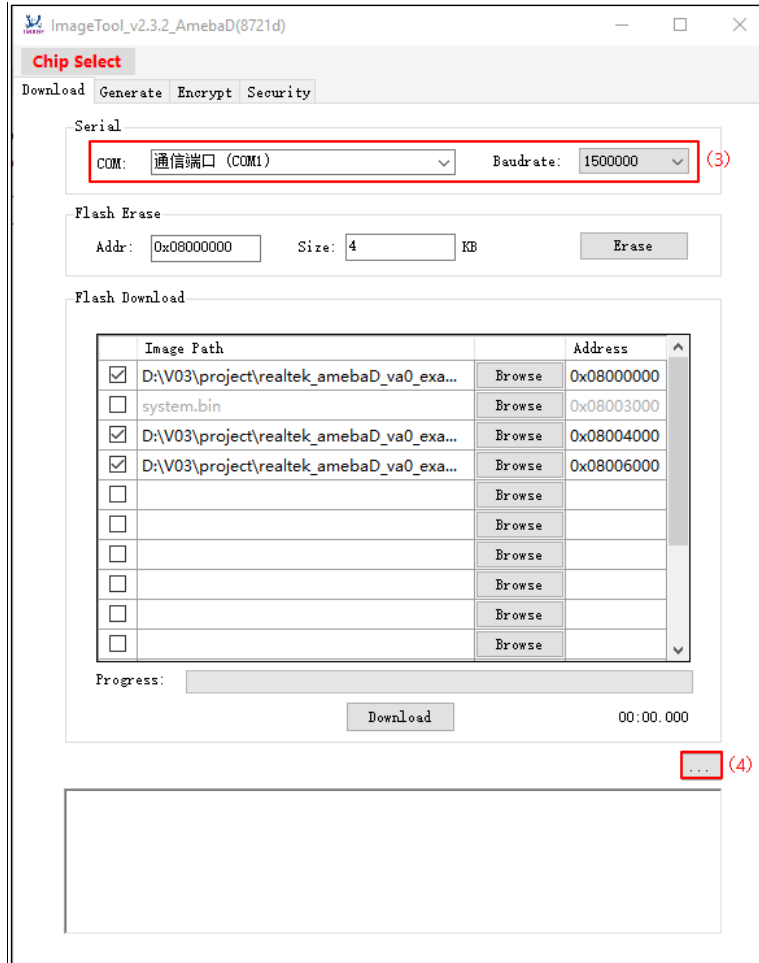
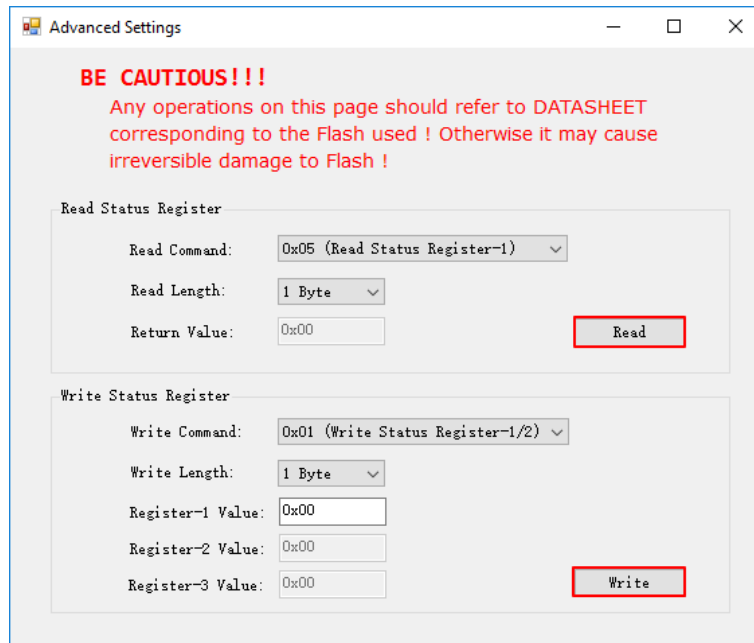

Fig 8-5 'Advanced Settings' window
Fig 8-6 Flash status operation
- (1) Check the Read/Write Status Register Command and Sequence according to the Flash datasheet. Notice that different Flash IC would have different sequence.
- (2) Get Ameba into UART\_DOWNLOAD mode as introduced in section 8.3.1.
- (3) Select the corresponding serial port and baud rate.
- (4) Click **Advanced Settings** button in Fig 8-5, and the **Advanced Settings** window shown in Fig 8-6 pops up.